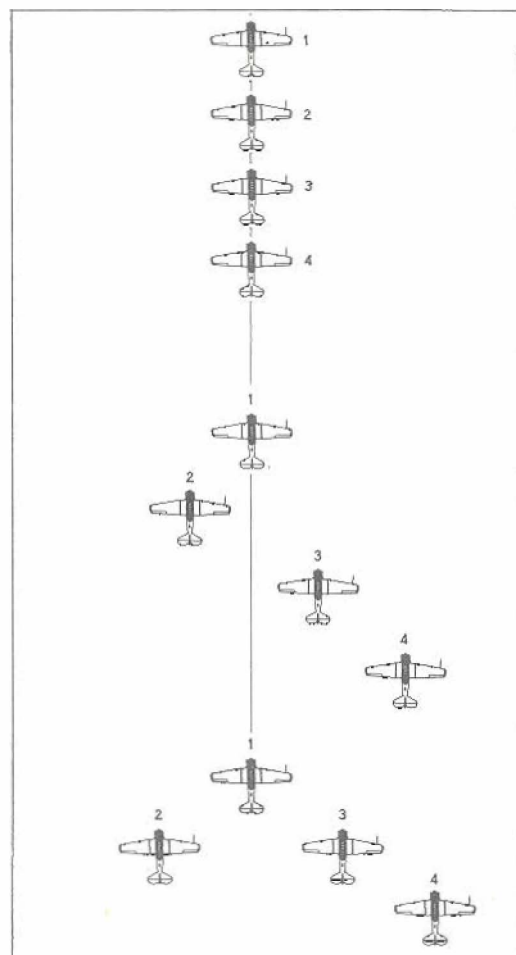

Figure 12: Finger to Line Astern
(4) **FINGER FROM ECHELON -** When the formation is to reform a Finger to either side, the procedure is almost the reverse of that described in paragraphs (2) and (3). The only difference is that when forming Finger Left from Echelon Left, or Finger Right from Echelon Right, Number Two makes the first move, and Numbers Three and Four merely close up the gap.
(5) **FINGER TO LINE ASTERN -** The hand signal for Line Astern from Finger consists of the leader holding a clenched fist behind his head: Number Three repeats the signal to Number Four, who cannot see the leader. To change formation, Numbers Three and Four reduce power slightly, and move down and back to give Number Two enough space to come over behind Number One. When Number Two is in position, Number Three moves behind him, while Number Four falls into position behind Number Three. (Figure 12) The correct spacing is 10 feet below and half an aircraft length to the rear.